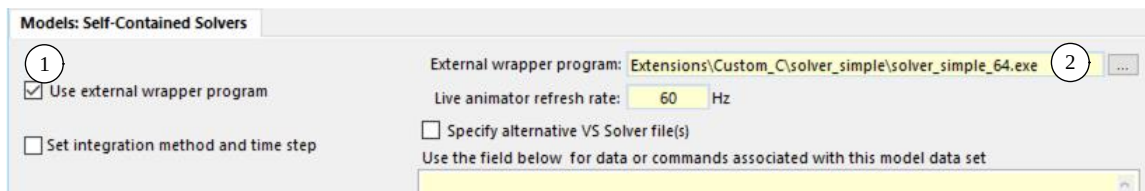

Figure 18. Identify the pathname to the compiled EXE wrapper program.
In the linked **Models: Self-Contained Solvers** dataset (Figure 18), check the box to use an external wrapper program (1) and specify the pathname for the compiled wrapper program (2).